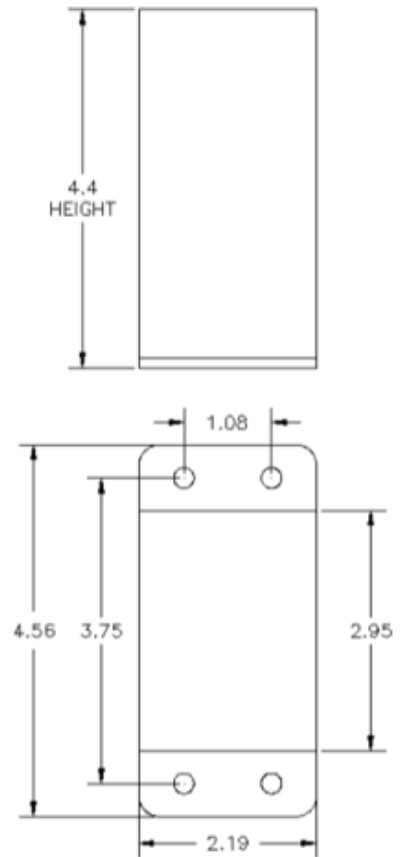

FIGURE A5.3: 37543 Smart Monitor dimensions.
2. Mount the Smart Monitor inside an existing control panel or other suitable protective enclosure. See Figure A5.3 for Smart Monitor mounting dimensions.